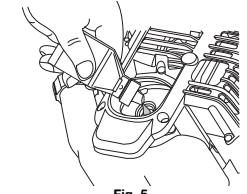

Fig. 5
- Pour the entire bottle of oil into the oil fill hole (Fig. 5).